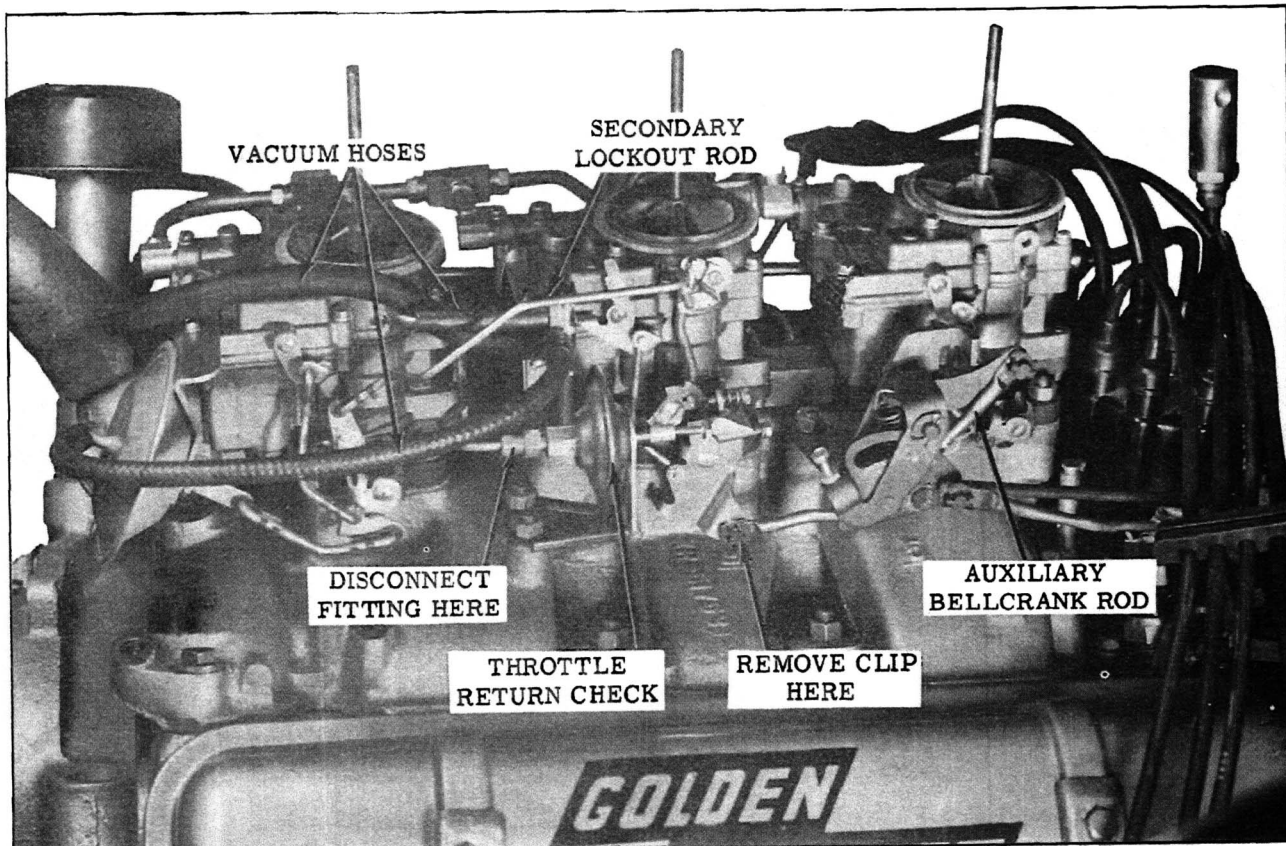

Fig. 9 Left Side View of Installation
5. Remove lower clip from auxiliary bellcrank rod and disconnect rod from throttle lever on center carburetor. (See Fig. 9)